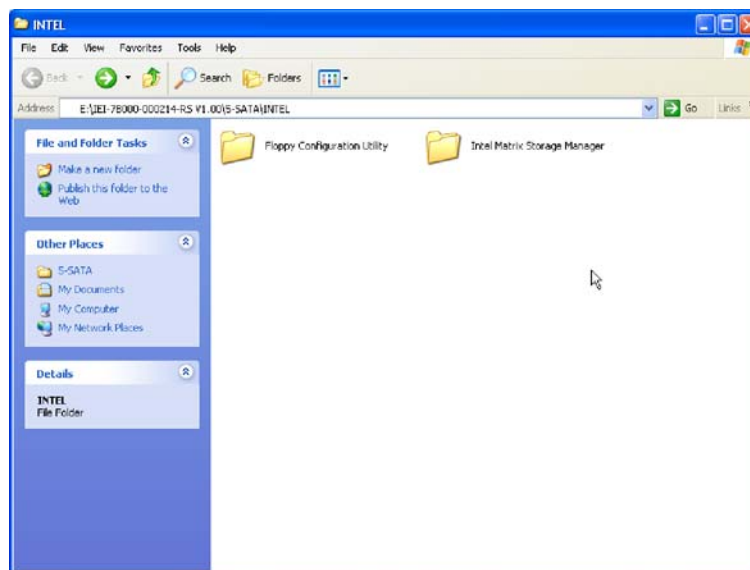

Figure 6-25: SATA RAID Driver Installation Program
Step 2: A new window opens (**Figure 6-25**).